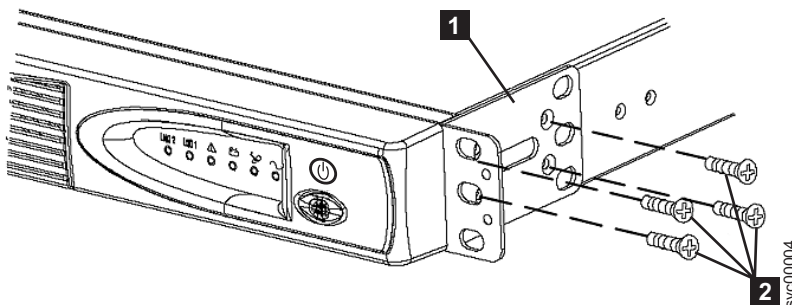

Figure 205. Installing the support rails for a 2145 UPS-1U into the rack
2. On each side of the 2145 UPS-1U, attach the long end of a mounting bracket to the 2145 UPS-1U using four of the supplied M3 × 6 screws (**2** in Figure 205).